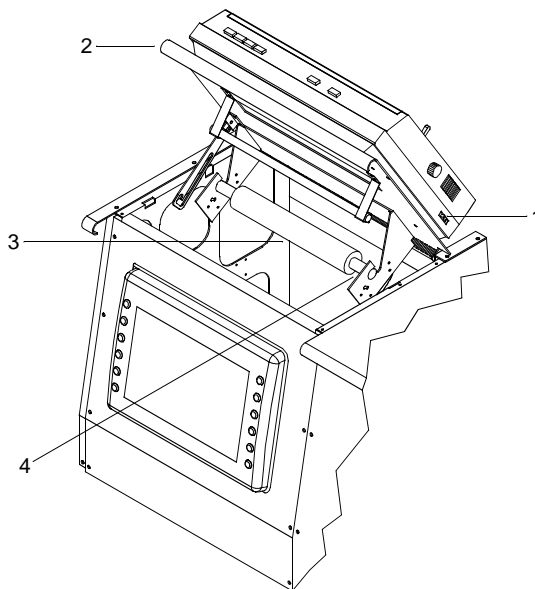

Figure 1. Printer
1. Ensure the power switch (figure 1, item 1) is in the off position.
2. Lift the GMDSS access cover (figure 1, item 2) to the locked position.
3. Remove the empty paper roll (figure 1, item 3) and the paper roller (figure 1, item 4).